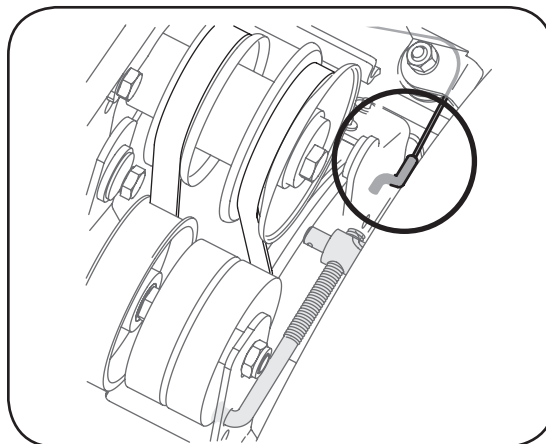

Figure 27
7. Pull the brake bracket assembly towards the cable guide roller and unhook the auger cable "Z" fitting. See Figure 27.